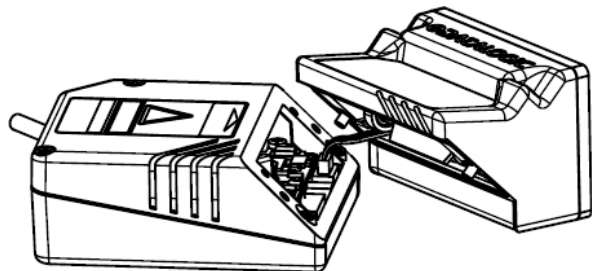

Figure 3
- 3) Bring the OM2000N close to the scanner and insert the cable into the power connector of the scanner (See Figure 3).